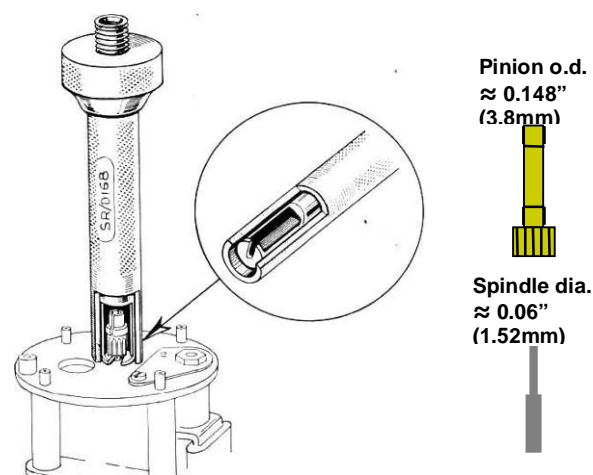

FIGURE 5.11a: Special tool SR/D 168 for removing cannon pinion from centre spindle assembly.
Clocks with bottom time setting controls had a pressed-on gear at the rear end of the centre spindle which sat above the support plate and had to be removed to fully disassemble the clock (refer to fig. 5.11a in "5.7.1 Dismantling the movement").
Apart that is from removing the cannon pinion (32). A special tool exists for removing this item which is either a brass gear (Rear remote time-set clocks) or a combined brass sleeve and gear pressed on to the centre wheel spindle (14). The official tool for this job, SR/D168 and is shown in *fig. 5.11a*.
A dimensioned sketch of the cannon pinion and centre wheel spindle is also provided in *fig.5.11a*. The centre wheel spindle has a diameter of less than 1/16 inch and would be easily bent or broken. A tool similar to that shown is essential to successfully remove this component. It's not too difficult to make one up if you have access to a lathe. Without a suitable puller it will be extremely difficult to remove the pinion without bending the centre spindle.